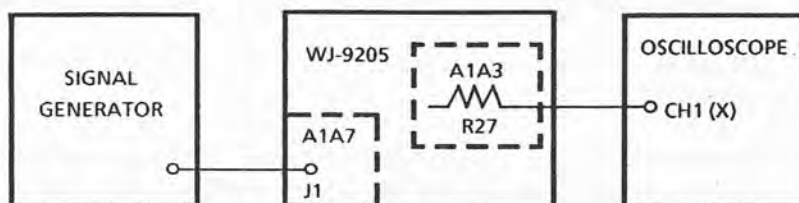

Figure 4-4. DRD/Timing Control Alignment, Equipment Connections
2. Connect the test equipment as illustrated in Figure 4-4 and place the A1A3 assembly on its extender board.